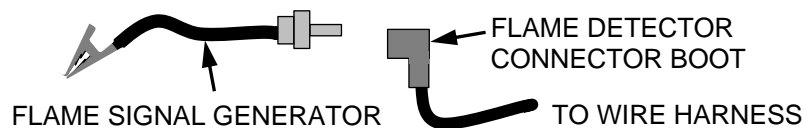

Figure 5-7: Connecting the Flame Signal Generator
- b) Push the **BACK** button three (3) times to return to the upper level menu.
- c) When the Controller gets into the ignition phase, the control panel will show **IGNITION TRIAL**. At that point attach the alligator clip (see Figure 5-7) to any bare metal surface or ground. The C-More display should now show **FLAME PROVEN** and begin to ramp up to 100% fire rate. Note that no gas or flame is present in the boiler at this time.